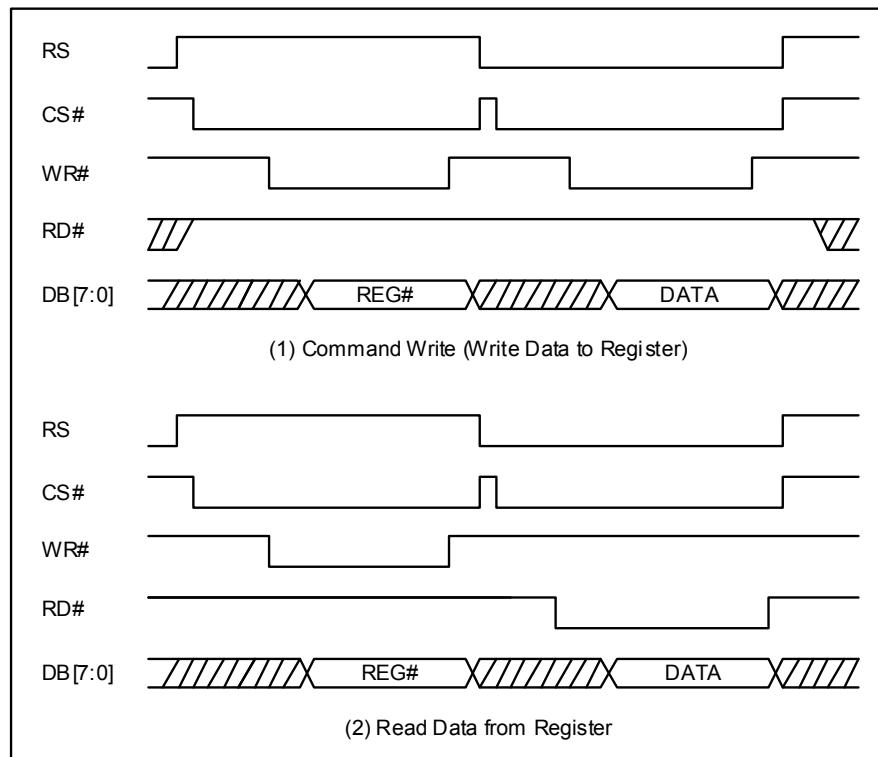

Figure 6-28 : 8080 Register Write/Register Read
RA8875 contains dozens of registers. If users want to write a command into the register of RA8875, they must execute the command write cycle first, i.e. the address of register, and then execute the data write cycle for storing a new data into the target register. So “Write Command” means that it will write a new data into the register. Please refer to the Figure 6-28 (1) for the related access timing.
To read the register contents of RA8875, it has to execute the command write cycle first, and then a “Data Read cycle” follows it. Please refer to the Figure 6-28 (2). But please note that the Figure 6-28 is based on 8080 interface.